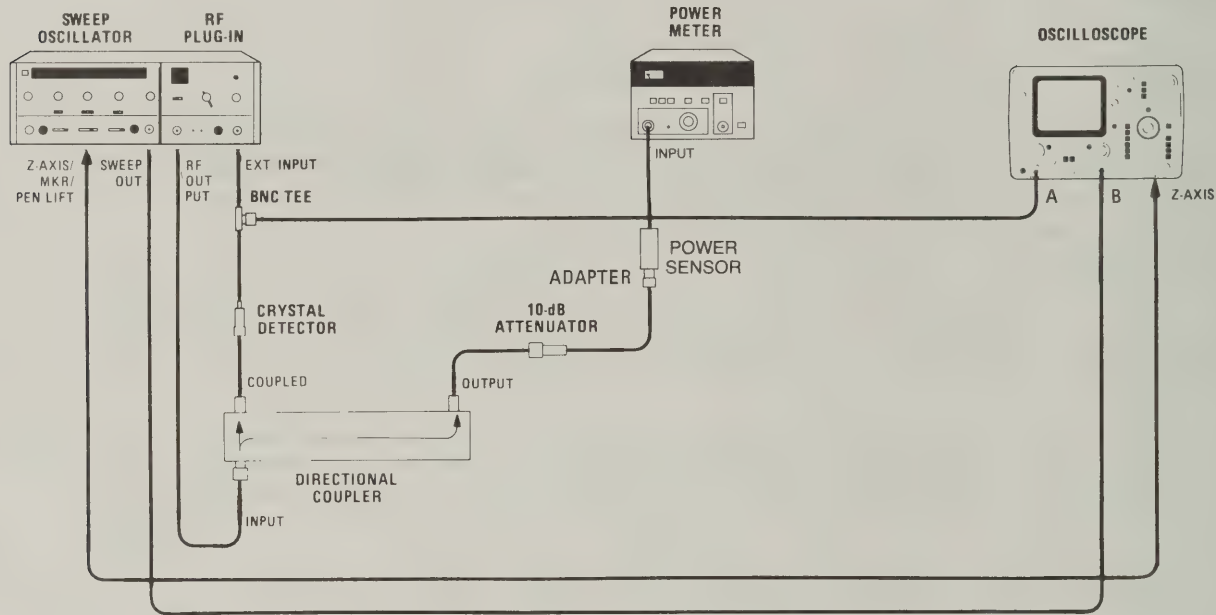

Figure 4-8. Crystal Detector Leveling Test Setup
- 1. Connect equipment as shown in Figure 4-8. Allow 30 minutes warm-up time.